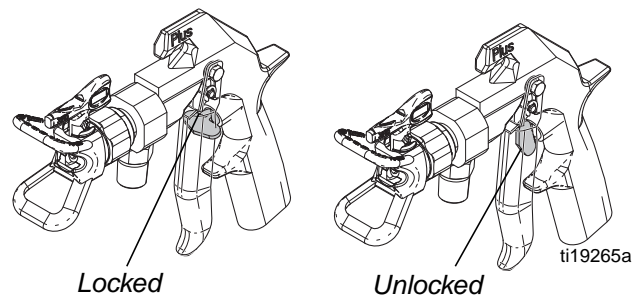

FIG. 1: Trigger Lock Positions
1. To engage the gun trigger lock, rotate the lock so it is perpendicular to the gun body. See FIG. 1.
2. To disengage the gun trigger lock, push the lock out and rotate it so it is parallel with the gun body. See FIG. 1.